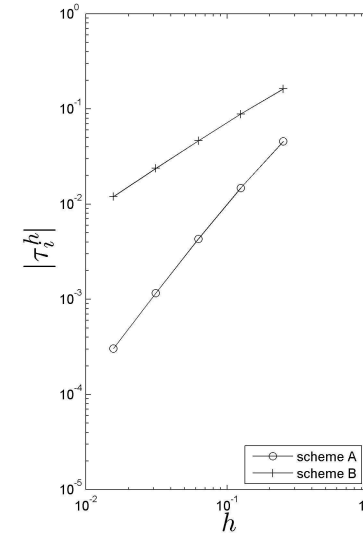

Fig. A.1. At left : loglog plot of the truncation error versus grid-size, at right : corresponding datas.
- 6) The FD formula of Question 3 and δ_x^+ are now used to compute the first derivative of $u(x) = \log x$ at grid point $x = 0.8$ on a series of meshes where Δx is halved successively. For both schemes, Figure A.1 shows a loglog plot of the truncation error versus Δx and the corresponding datas are reported in the table. Calculate the missing values of R in the table and deduce what are Scheme A and B.